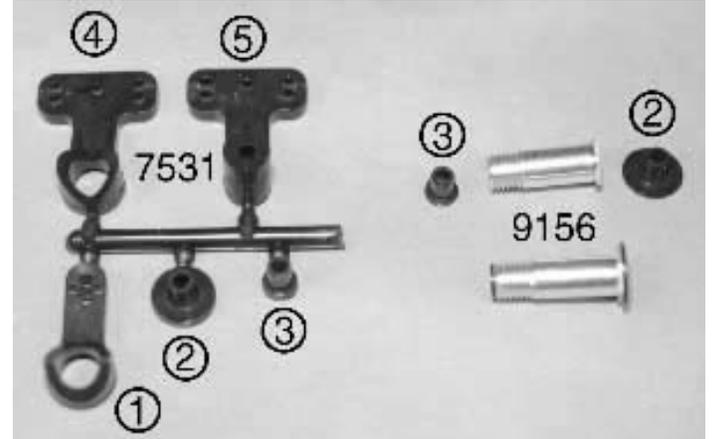

Fig. 29
□ **Fig. 29** Inside the same bag #7-2 you will find the #7531 black plastic servo saver parts tree and the #9156 aluminum servo saver tube. The names of the parts on the parts tree are: (1) left upper servo saver arm, (2) lower servo saver bushing, (3) upper servo saver bushing, (4) left lower servo saver arm, (5) right side bellcrank. Remove the two servo saver bushings and install them into the servo saver tube. The upper bushing goes into the threaded end of the tube and the lower bushing goes into the hex end of the tube.